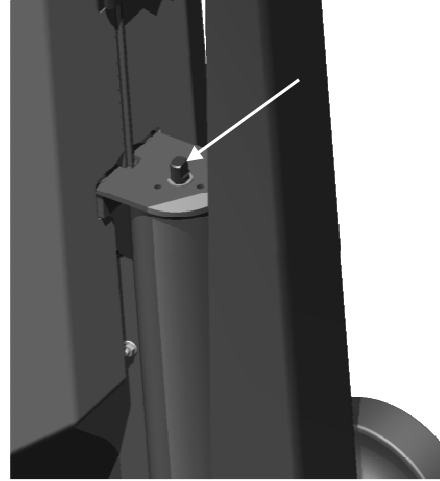

Figure 2
3. Completely remove the handle pivot pin shown in Figure 2 by using a 1/2" wrench. The "E" retaining ring on the handle pivot pin does not need to be removed.